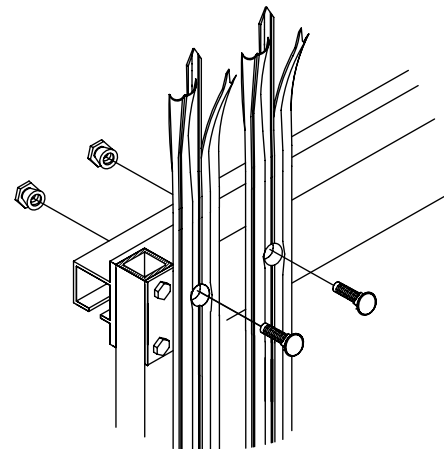

Figure 6
7. Attach safety mesh (K) to bottom 6’ of gate (Note: Fasteners are not provided; installer is responsible for attachment method). Sufficient mesh is provided to also cover fence that runs parallel to gate travel path.
8. Track is predrilled its entire length so that pales (D) can be attached either left or right depending on the direction of the gate opening. If gate opens to the right, install pales from left end; if gate opens to the left, install pales from the right end. Position pale (D) to align with pre-drilled holes in tracks, attach with pale bolts (G) and pale nuts (I) as shown in Figure 6. Tighten all nuts thoroughly.